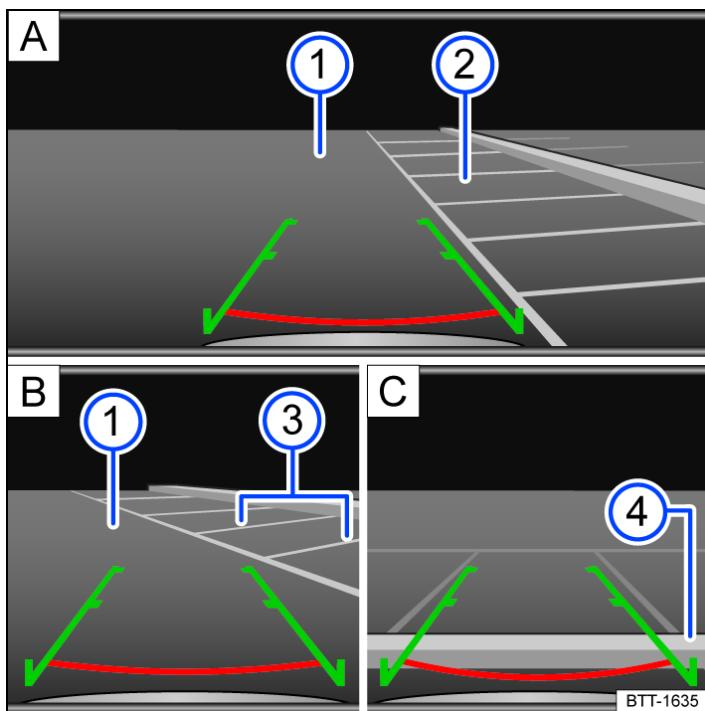

Fig. 1 Infotainment system: parking using the rear view camera system.
- Position the vehicle in front of the parking space → Fig. 1 Ⓐ ②.